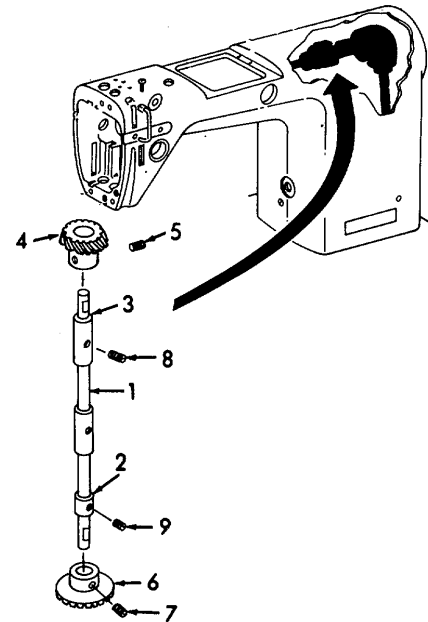

Figure 6-81. Vertical Shaft, Installation.
- (1) Inspect for loose, missing, or damaged hardware.
- (2) Inspect pinion gears for damage.
- (3) Inspect collars for damage.
- (4) Inspect shaft for damage.
e. Installation (Refer to Figure 6-81).
- (1) Insert shaft (1) through bottom bushing.
- (2) Slip on both the lower collar (2) and the upper collar (3).
- (3) Slide the shaft (1) through the upper bushing.
- (4) Install the upper pinion gear (small) (4).
- (5) Set the pinion gear (4) flush with the end of the shaft (1). Tighten both setscrews (5).
- (6) Install the bottom pinion gear (6). Tighten both setscrews (7).
- (7) Move the upper collar (3) into position and tighten both setscrews (8).
- (8) Move the lower collar (2) into position and tighten both setscrews (9).